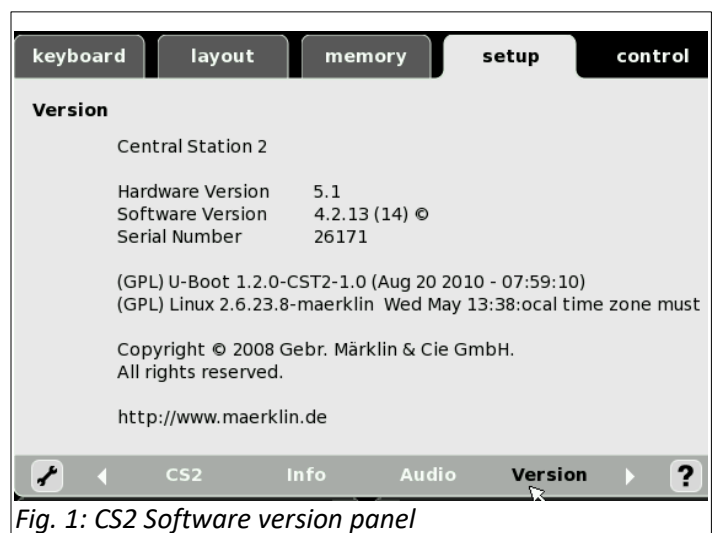

Fig. 1: CS2 Software version panel
The first thing that you may want to do with your CS2, would be to ensure that the software is at its latest version. For the CS2 the software version is currently at 4.2.13 (14). Having a current version of the software can often resolve some loading issues regarding the current mFX decoded devices (Loks, Signals, etc.). You will find the software version by looking into the Setup/Version Panel (See Fig. 1).